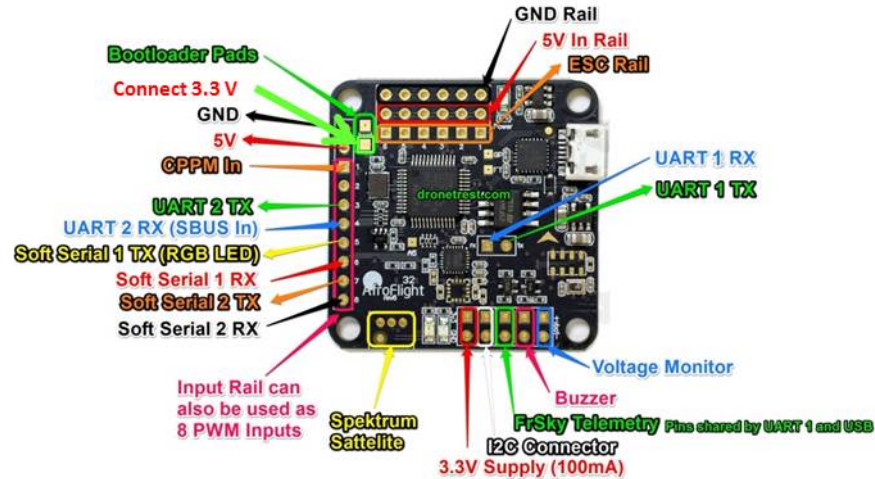

Figure 1: Figure of the flight controller.
5. Use a jumper wire that connects the bootloader pad of the chip and 3.3V of the chip as shown in Fig. 1. The bootloader pad that needs to be connected to 3.3V is circled with a green box.
6. Connect a micro USB cable with the chip and the computer. If the connection is correct, the chip will be in the bootloader mode. In this mode, only a blue LED indicates the power will be turned on. No other LEDs will be on or flashing. It is also important to **remove any wires on the USART1 pins** otherwise the flashing process will fail. The USART1 pins are shown in Fig. 1.